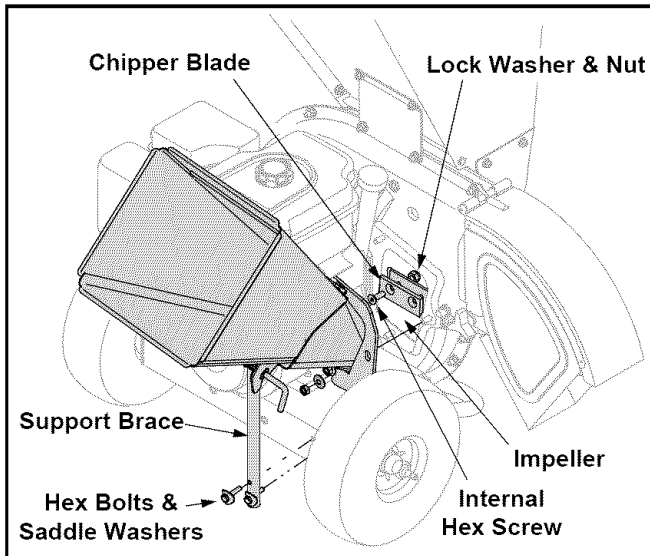

Figure 9
- Remove the chipper chute support brace from the frame by removing the two hex bolts and saddle washers which secure it. See Figure 9.
- Remove the chipper chute by removing three hex nuts and washers which secure it to the impeller housing. See Figure 9.
NOTE: Use a 3/16" hex key (Allen) wrench on the outside of the blade and a 1/2" box (or socket) wrench on the inside of the impeller. See Figure 9. Hold the Allen wrench stationary and rotate the box (or socket) wrench to loosen the nut.